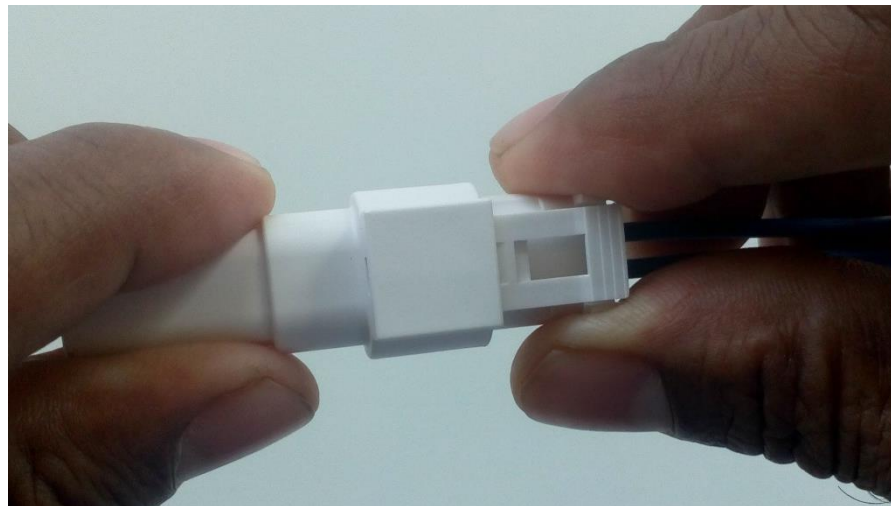

Fig 15
1. Hold the plug connector assembly and receptacle connector assembly as shown in fig 15. Align connector system latch features and begin mating process along the same axis.